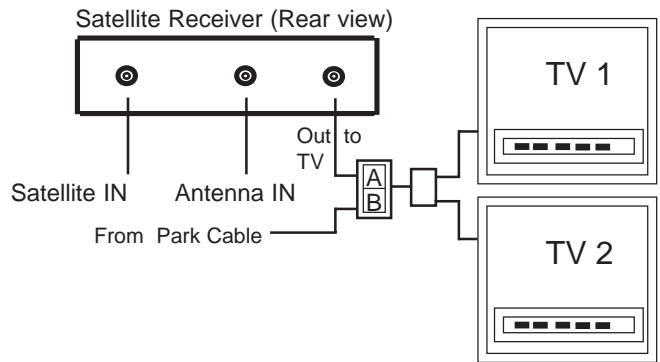

Figure 7
2. If the coach has an A-B slide switch, (one way or “A” would be for “Antenna or the Satellite” and the other way or “B” would be for “Park Cable”) proceed as follows (Fig. 7).